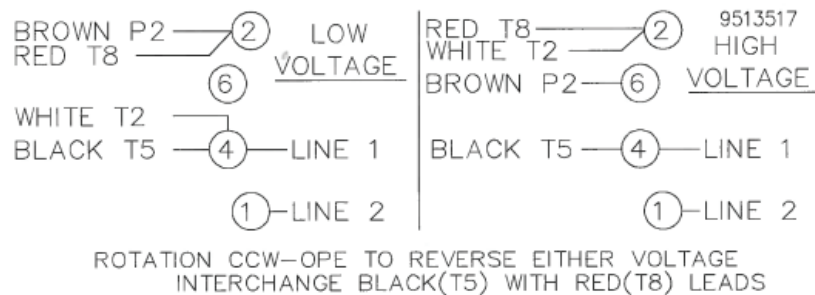

Figure 1 - Wiring Label
- Install retained conduit fitting in motor knock out opening and draw motor leads through conduit fitting. Open back panel by removing two screws (do not discard) and connect motor leads per wiring diagram shown in Figure 1. Be sure to verify that the actual motor label wiring diagram matches the wiring diagram depicted in this service bulletin.